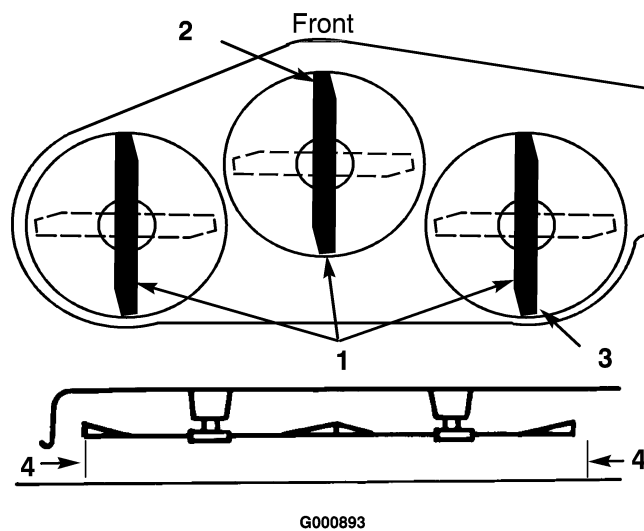

Figure 46
- Set the height-of-cut at 3 inch (76 mm) and carefully rotate the blades so they are facing front to rear (Figure 46).
- Measure between the tip of the front blade (Figure 46) and the tip of the rear blade to the flat surface. If the front blade tip is not 1/16-5/16 inch (1.6-7.9 mm) lower than the rear blade tip, adjust the front trunion rods.
- After adjusting both trunion rod yokes evenly, secure the yokes with the hairpin cotters. Check the front-to-rear level again. Continue adjusting the yokes until the front blade tip is 1/16-5/16 inch (1.6-7.9 mm) lower than the rear blade tip (Figure 46).